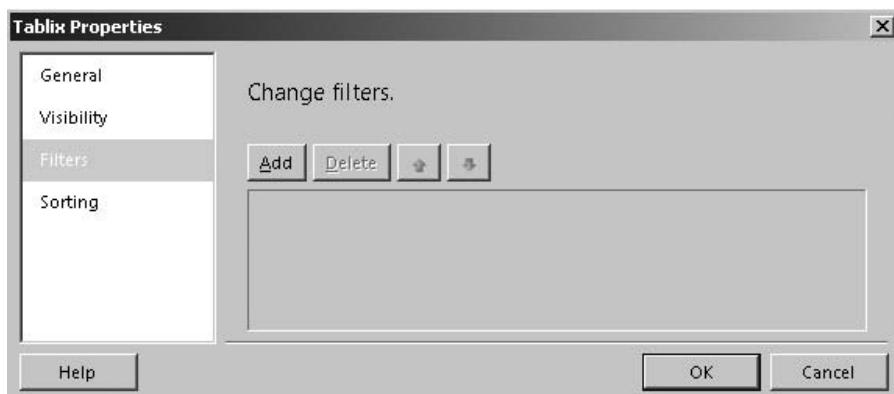

Figure 16-18 The Filters page of the Tablix Properties dialog box
52. Select the Filters page. This is shown in Figure 16-18. The Filters page enables us to specify an expression for filtering the rows in the dataset. No filtering expression is specified in this report.